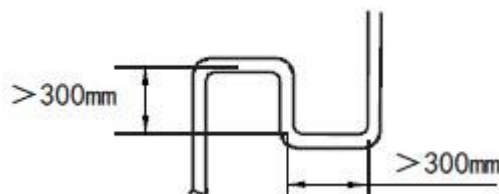

Fig.4-2
3. When the main unit is over 20m from the above places, it is recommended to set a return oil bending every 10m of the air pipe in the main pipe, the return oil bending specification is as Fig. 4-2.
Pipe name	Code (As per the Fig. 4-2)
e.x.1: Refer to Fig.4-2 , the capacity of downstream units to L2 is 71 × 4=284, i.e. the gas pipe for L2 is Φ 22.2, liquid pipe is Φ 9.5.